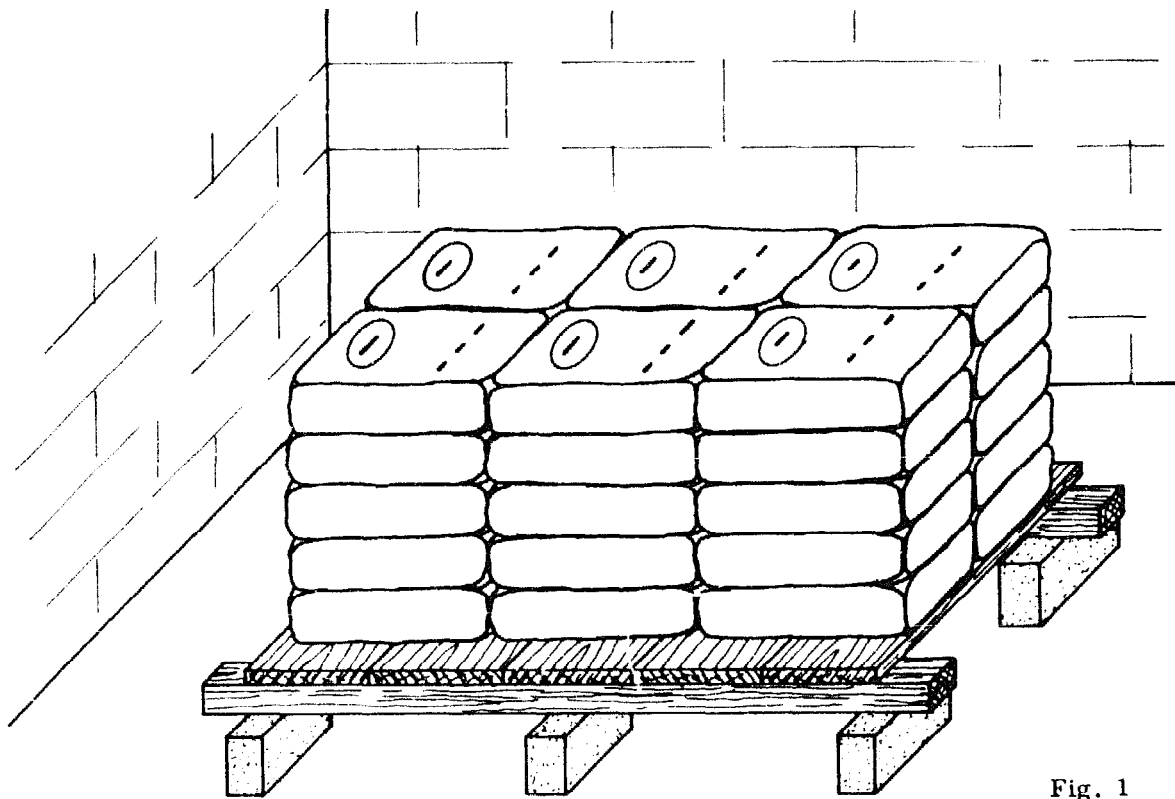

Fig. 1
- **STORING IN A SHED:** Make sure that the shed or room is water-tight and has a sound, dry floor. If the floor is not dry, make a platform out of boards set on blocks and timber, to raise the bags off the ground (Fig. 1). Stack the bags closely together to keep out air, and away from the walls so that they are not in contact with any dampness on the walls. In very large sheds it is better to cover the bags with plastic sheeting to keep out damp air, especially during the rainy season.